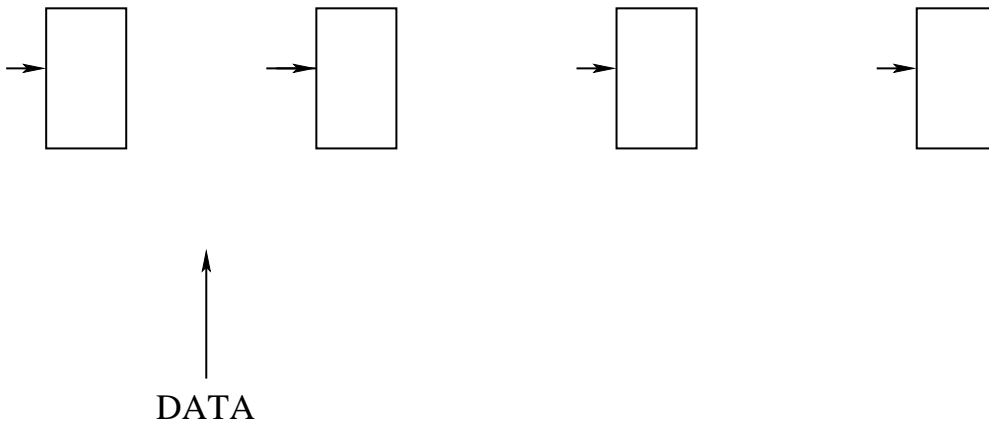

Figure 6: A modular linear feedback shift register
- (b) (2 points) Give an internal exclusive-OR (modular) realization of this polynomial. For your convenience I have already drawn four FFs in the figure 6 below. (DATA input shown refers to part d)
- (d) (4 points) The sequence above is fed to a modular realization of MISR with the characteristic polynomial  $x^4 + x + 1$ . The location where the sequence is fed is marked as **DATA** in the figure 6. Determine the signature (contents of MISR) of the circuit producing this sequence as output. You must use the method of polynomial division and show your work.